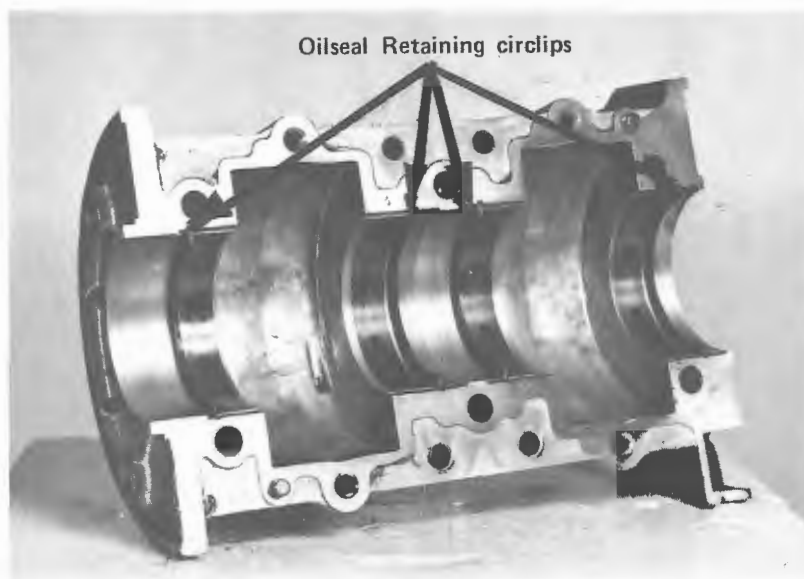

Fig. 5-1 Crankcase Lower Half
5.2.1 Crankcase and Crankshaft (See Figure 5-1)